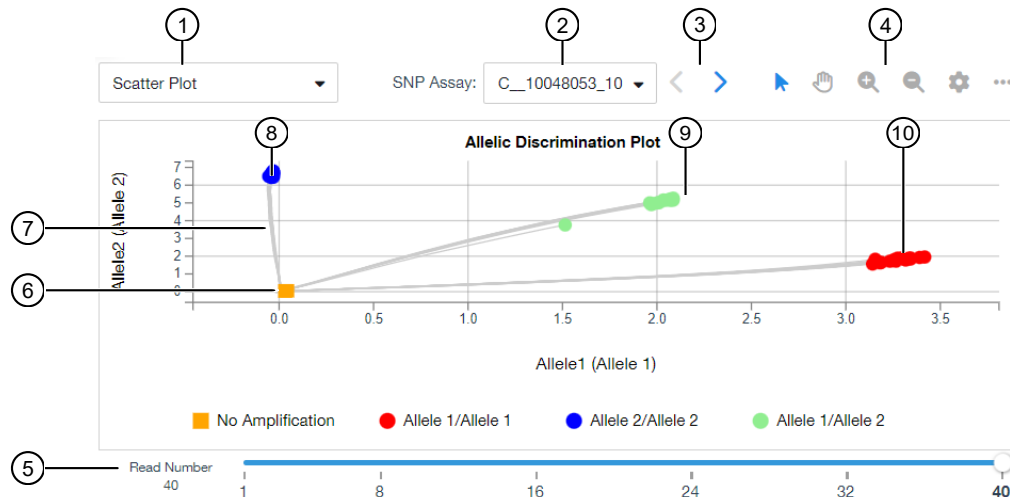

Figure 1 Allelic Discrimination Plot
1. In the **Genotyping** tab, in the upper-left corner of the **Allelic Discrimination Plot** pane, select **Scatter Plot** from the dropdown list (see Figure 1 on page 15).
5. Visually evaluate clusters for the three possible genotypes (see Figure 1 on page 15).
Real Time Data radio button ^[2]	The normalized reporter data (Rn) from the selected cycle of the cycling stage is used to determine calls. Analysis is not restricted to the last cycle. Adjust the analysis cycle using the Cycle Slider in the Allelic Discrimination Plot pane (see Figure 1 on page 15).